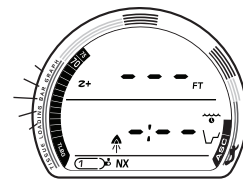

Fig. 79 - DV3 MAIN
**DV3 MAIN**, information includes (Fig. 79) -